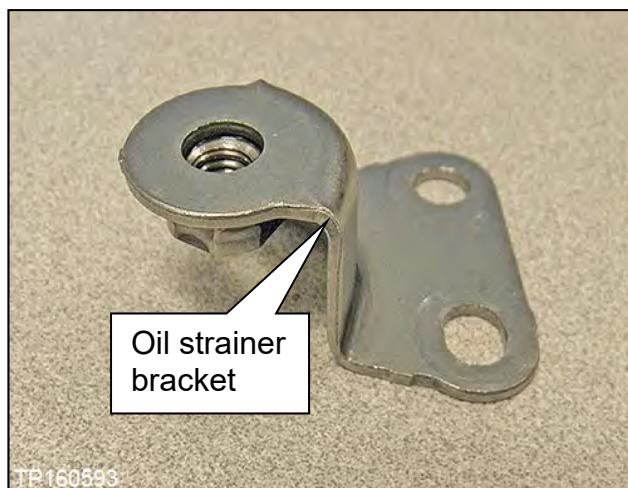

Figure 139
**NOTE:** If an oil strainer bracket was removed, discard it. An oil strainer bracket (Figure 139) will not be used with the new oil strainer.